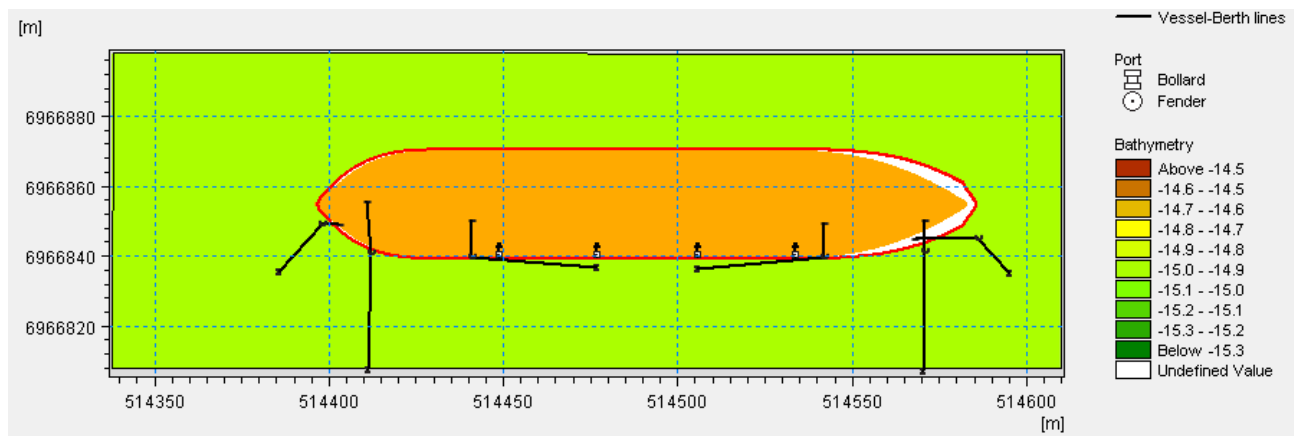

Figure 3-18 Moored vessel in port domain with mooring system connected
- The image shown in Figure 3-18 should show up on your screen showing the berth pocket depth (constant 15 m), vessel and shore based connection points and the vessel position.